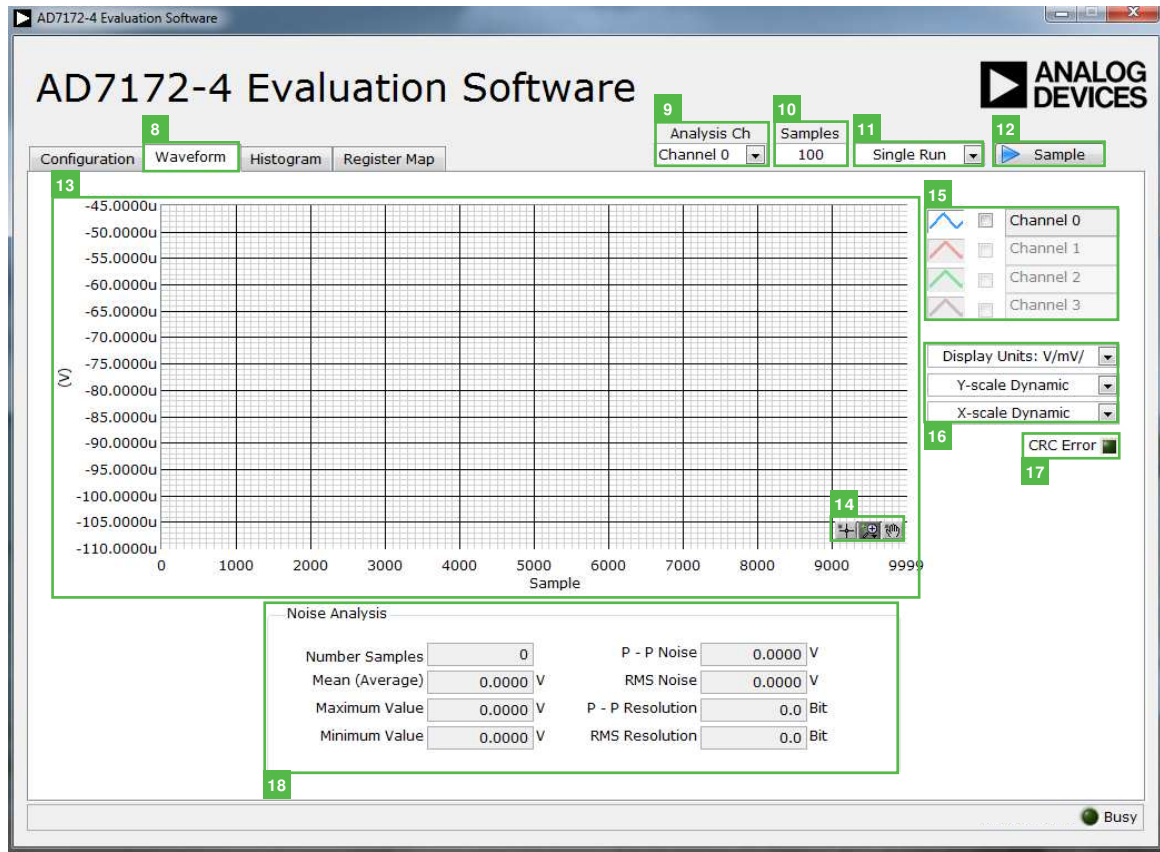

Figure 8. Waveform Tab of the AD7172-4 Evaluation Software
See Figure 8 for the **Waveform** (8) tab.
The **Noise Analysis** (18) section and waveform graph shows the analysis of the channel selected via the **Analysis Ch** (9) drop-down combo box (see Figure 8).
The **Samples** (10) numeric control and batch control (11) set the number of samples gathered per batch and indicate whether only a single batch or multiple batches of samples are gathered. The **Samples** (10) numeric control is unrelated to the ADC mode. You can capture a defined sample set or continuously gather batches of samples. In both cases, the number of samples set in the **Samples** (10) numeric input dictates the number of samples (see Figure 8).
Click the **Sample** (12) button to start gathering ADC results. Results appear in the waveform graph (13) (see Figure 8).
The data waveform graph (13) shows each successive sample of the ADC output. The control toolbar (14) in the graph allows you to zoom in on the data. Click the x-axis and y-axis to change the scales on the graph (see Figure 8).
The channel selection (15) control allows you to choose which channels display on the data waveform (see Figure 8). These controls only affect the display of the channels and do not have any effect on the channel settings in the ADC register map.
In the display units and axis controls section (16), click the **Display Units: V/mV** drop-down combo box to select whether the data graph displays in units of voltages or codes (see Figure 8). This selection affects both the waveform graph and the histogram graph. The axis controls can be dynamic or fixed. When **Y-scale Dynamic** and **X-scale Dynamic** are switched on, the axes automatically adjust to show the entire range of the ADC results after each sample batch. Click the drop down arrows to select the **Fixed** option to program the axis ranges to not adjust after each sample batch.
The **CRC Error** (17) LED icon illuminates when a cyclic redundancy check (CRC) error is detected in the communications between the software and the AD7172-4 (see Figure 8). The CRC functionality on the AD7172-4 is disabled by default and must be enabled for this indicator to work.
The **Noise Analysis** (18) section displays the results of the noise analysis for the selected analysis channel (see Figure 8). This section includes both noise and resolution measurements.